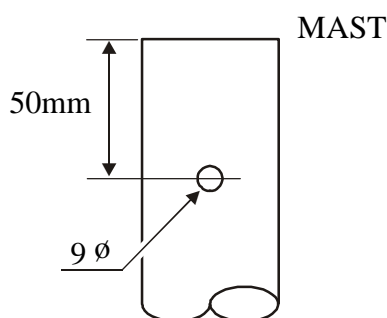

Figure 1
1. Drill a 9 mm diameter hole through both walls of the mast, centered 50 mm from the mast bottom (see Figure 1). Ensure the drill is maintained perpendicular and centered when making the hole, to ensure proper alignment of the holes in the mast and those in the base support clamp.